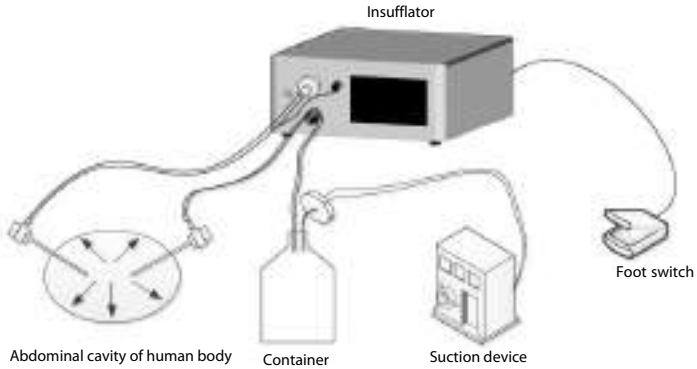

Figure 4-13 Connection method of insufflator with smoke exhaust
5. The installed insufflator system with smoke exhaust function is as shown in Figure 4-13.